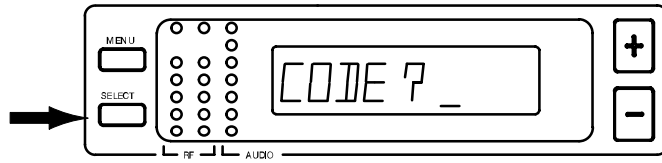

FIGURE 31
3. Press the SELECT button. The CODE? display will appear, as shown in Figure 31.